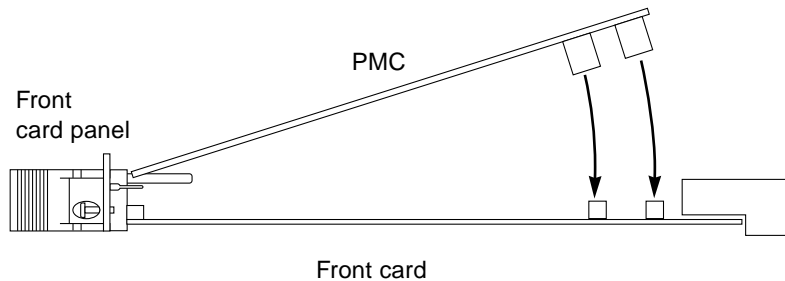

FIGURE 2-4 Pressing the PMC Into the Front Card's PMC Connectors (Side View)
9. **Carefully press the PMC into the front card's PMC connectors (FIGURE 2-4).**